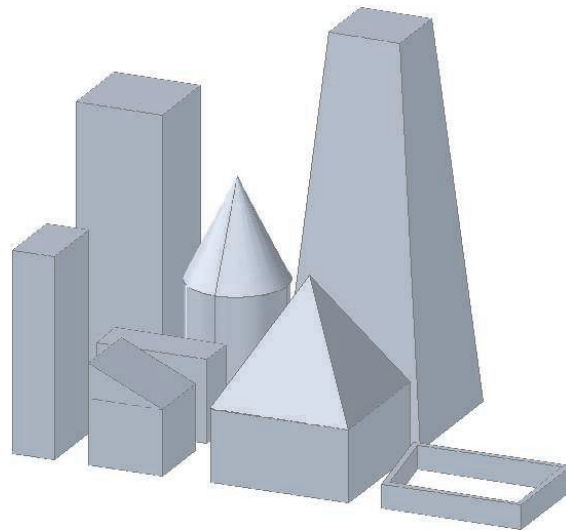

Figure 2–19
In this practice you will draw solid primitives using dynamic input and dynamic UCS to create a conceptual skyline, as shown in Figure 2–19. You will also add a polysolid wall.
2. Using the grid as if it were a city map, draw boxes, cylinders, pyramids, and other solid primitives, as shown in Figure 2–19. Use Dynamic UCS and 3D Object Snaps to help when you draw on top of other primitives and to create areas of roof lines. You can also draw on other faces. Use the various grips and Properties to modify the objects.